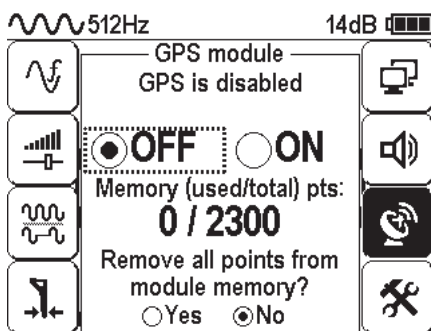

Fig. 1
2. If response from the module is received, the receiver requests the number of available GPS points in module's memory and shows this information on the screen (see fig. 1)